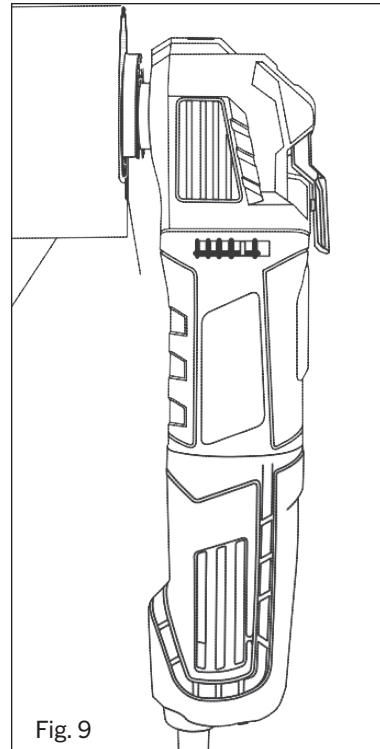

Fig. 9
2. Place the outlet box on the drywall and use a soft lead pencil to trace the required rectangular hole (1) on the drywall (Fig. 9)
3. Place the corner edge of the saw blade (2) near the drywall in the middle of one of the cutting lines.